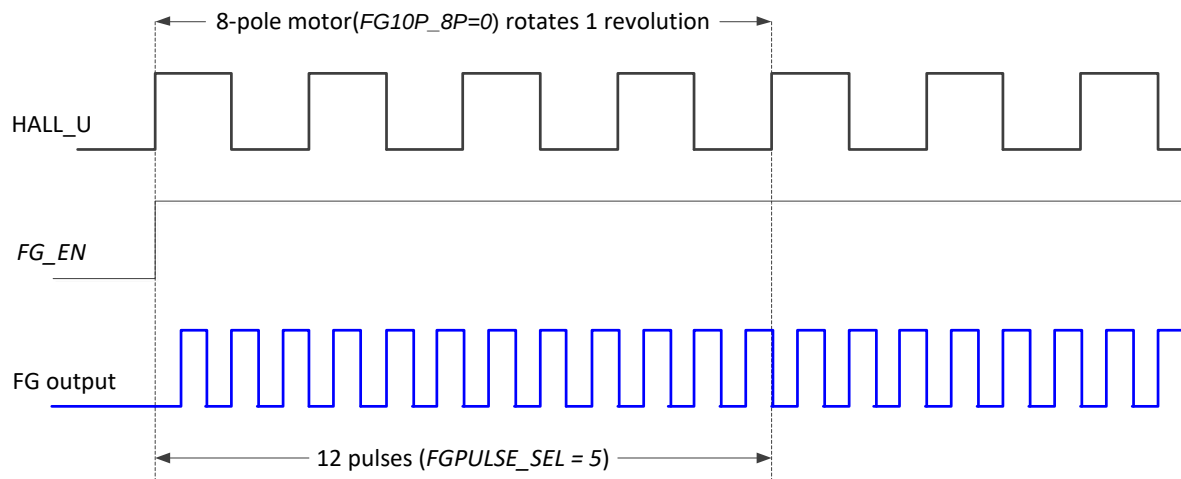

Figure 19.2.3 FG output when $FG_EN=1$, $FG10P_8P=0$, and $FGPULSE_SEL=5$
In addition to providing motor electrical cycle (motor speed) information, Motor Speed Observer can also output a fixed pulse number in a hall cycle according to the setting of FG_CTRL SFR (see Table 19.2.3), that is, it can be used as a frequency generator (FG). Figure 19.2.3 shows an FG output waveform when the control bits in the FG_CTRL SFR are FG_EN=1, FG10_T8P=0, and FGPULSE_SEL=5.